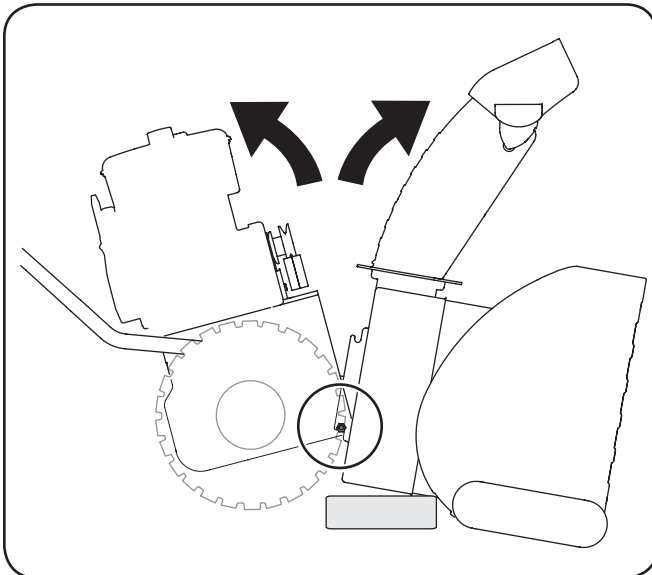

Figure 7-6
5. Place a block of wood underneath the auger housing as shown in Figure 7-6 and separate auger housing from the transmission frame by tilting the housing forward and pulling up the handles.